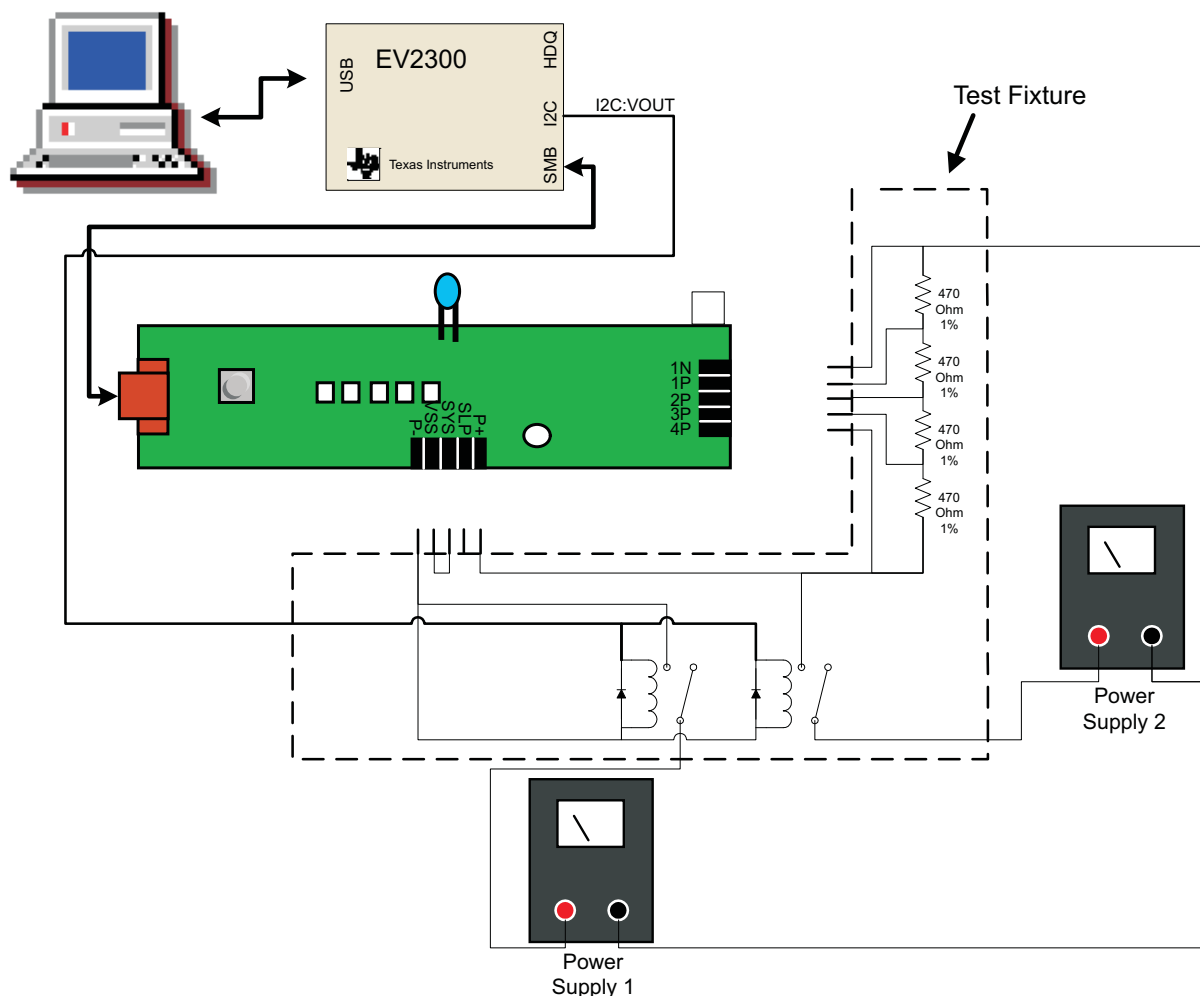

Figure 16. Single Site Tester Interface Connections
The bqTester software requires that the TI EV2300 USB-based PC interface board for battery fuel gauge evaluation interface be installed and running properly. The smart battery module should be connected to the EV2300 board and external power supplies as shown in Figure 16.
Do not use actual battery cells with this software. Cells should be simulated with resistors as shown in Figure 16.
- 24.4.148.20 Voltage Calibration** This box shows the currently measured voltage and provides a box for the user to enter the actual voltage being supplied to the part as measured by a calibrated meter. It also has a box for the user to enter the number of series cells being simulated. The default number of cells is 4. It also has a FET Control selection box. Select Off (Batt), and supply voltage to the simulation resistors as shown in Figure 16 (this configuration is the default). Never select On (Pack); it is only included for possible future use. To select voltage calibration, place a check in its selection box, or deselect it by removing the check. The default is checked. Note that if this test is disabled, the values from the gold data flash file are used and not the values currently in the part.
- 24.4.148.21 Pack Current Calibration** This box shows the currently measured current and provides a box for the user to enter the actual current being supplied to the part as measured by a calibrated meter. It also has a FET Control selection box. Always select On (External Load) and supply current to the Pack– and 1N (Batt–) inputs of the bq20zxx-based smart battery pack as shown in Figure 16 (this configuration is the default). Never select Off (Bypassed); it is only included for possible future use. To select Pack Current calibration, place a check in its selection box, or deselect it by removing the check. The default is checked. Note that if this test is disabled, the values from the gold data flash file are used and not the values currently in the part.
24.4.149.27 Voltage Enter the voltage supplied by Power Supply 2 as seen in Figure 16. This voltage must be extremely stable. Set the voltage at 3.6 volts times the number of cells being simulated (e.g., 4 x 3.6 = 14.4 v for 4 cells). Measure this voltage with a calibrated meter.
24.4.149.29 Current Enter the current supplied by Power Supply 1 as seen in Figure 16. A reasonable current setting is 2 amperes. This current value must be extremely stable. This voltage should be measured with a calibrated meter.